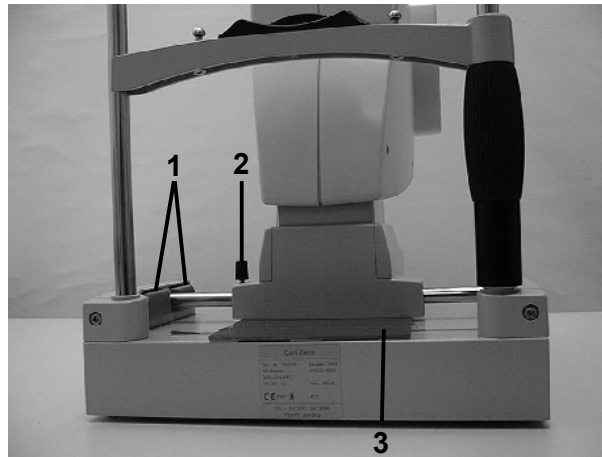

Fig. 1
- Remove pressure pieces ((1) Fig. 1) on the left and right from the wheel casings of the base.
- Loosen base lock ((2) Fig. 1).
- Move the unit backward (toward the user's side) as far as it will go and pull out safety lock ((3) Fig. 1) in the direction of the patient's side.